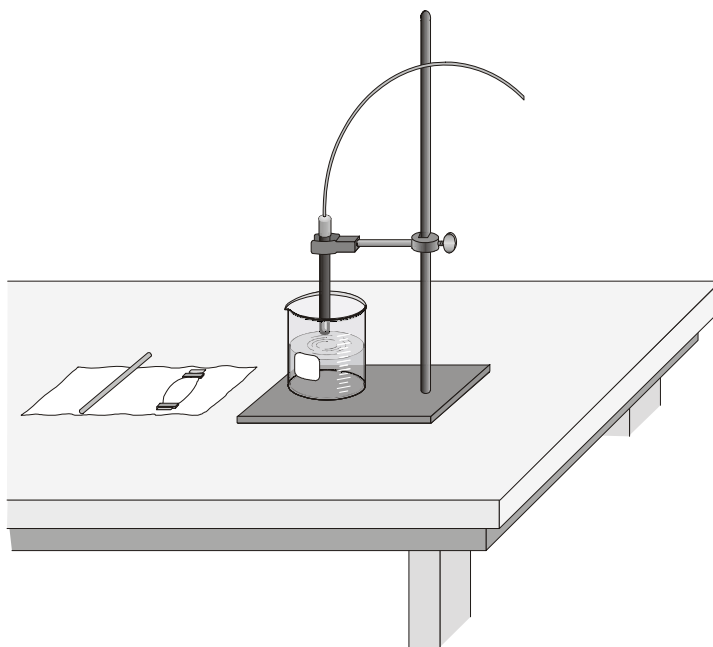

Figure 1
2. Set up the utility clamp and ring stand as shown in Figure 1.
9. Place 300 mL of distilled or deionized water into a 400 mL beaker. Secure the Conductivity Probe with the utility clamp in the water filled beaker as shown in Figure 1.